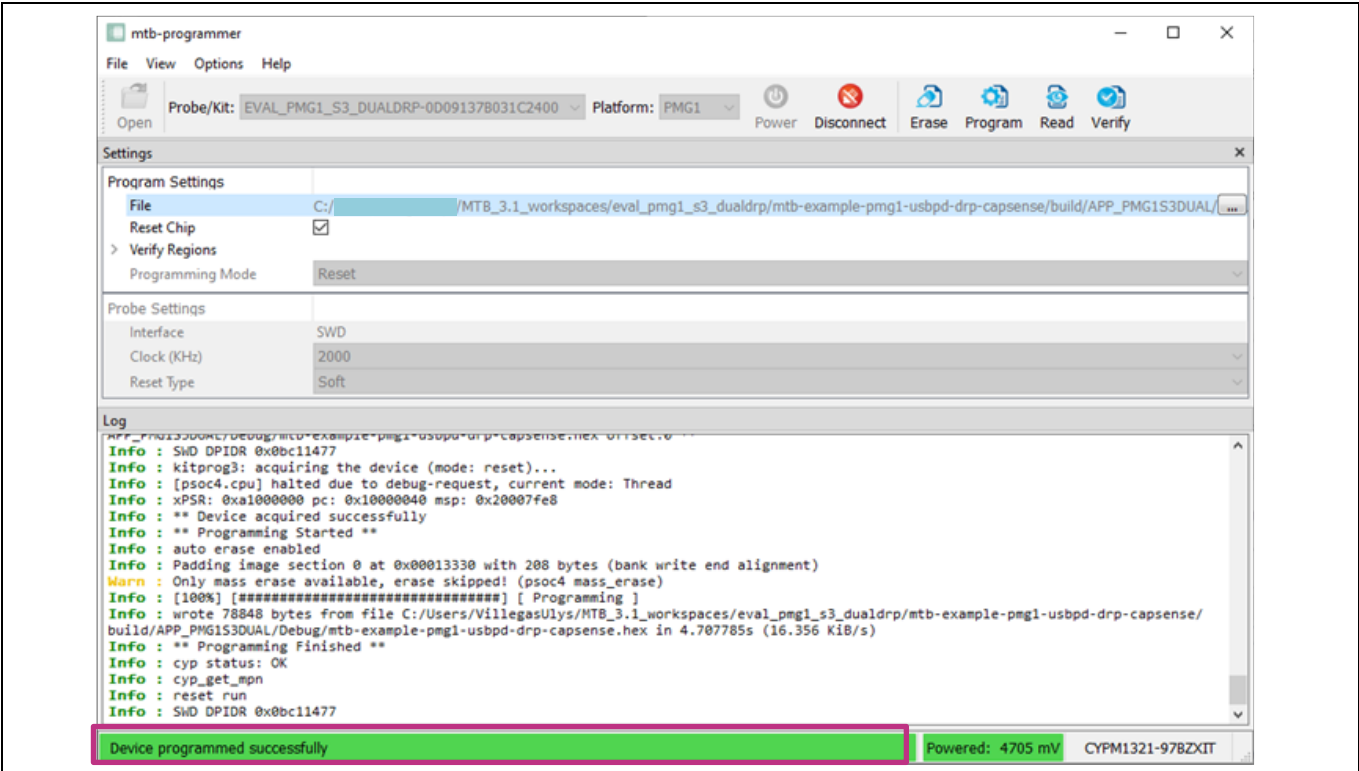

Figure 27 Programming through ModusToolbox™ Programmer
- Click **Program** to initiate the firmware update. On successful program completion, the message “Device programmed successfully” appears on the bottom left as shown in Figure 27.